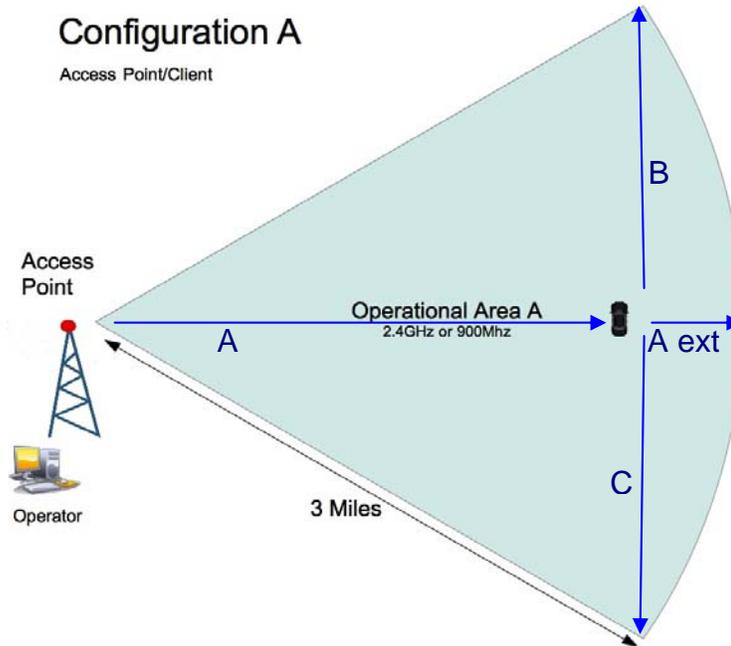

Figure 1: Radio Configuration A
25. Drive the vehicle down range from the main tower 3 miles at a speed not to exceed 30MPH (i.e., path "A" in Figure 1). The OCU operator will alert the vehicle driver if the video quality degrades before the vehicle reaches the 3 mile mark.
26. If the vehicle successfully reaches the 3 mile mark with no loss of video quality, the driver should continue to drive until the OCU operator signals that the video quality has degraded (i.e., path "A ext" in Figure 1). This distance should be recorded on the Radio Test Results form.
27. The vehicle operator will return to the 3 mile mark, reset the vehicle's trip odometer, turn the vehicle to the right 90°, and, if possible, drive perpendicular to the previous path for 1.5 miles at a speed not to exceed 30MPH (i.e., path "B" in Figure 1). Verify that the clock displayed in the top line of the video is moving without skipping or halting and that the video quality is at least a drivable quality. The drop-off distance should be recorded on the Radio Test Results form.
28. The vehicle operator will return to the 3 mile mark, reset the vehicle's trip odometer, and, if possible, continue to drive, perpendicular to the original path, for 1.5 miles at a speed not to exceed 30MPH (i.e., path "C" in Figure 1). Verify that the clock displayed in the top line of the video is moving without skipping or halting and that the video quality is at least a drivable quality. The drop-off distance should be recorded on the Radio Test Results form.